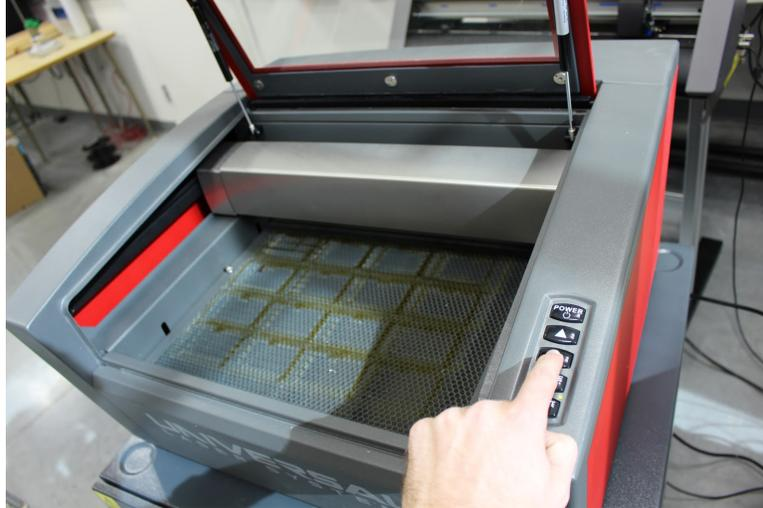

Figure 13 - Lowering the Laser Bed
1. To engrave a heavy object, or an object taller than 3" the cutting/vector grid will need to be replaced with the engraving table. Begin by powering on the laser and fully lowering the table by pressing and holding the down button on the right hand side of the laser (Figure 13). If you do not lower the table to the very bottom you may damage the laser in a future step.